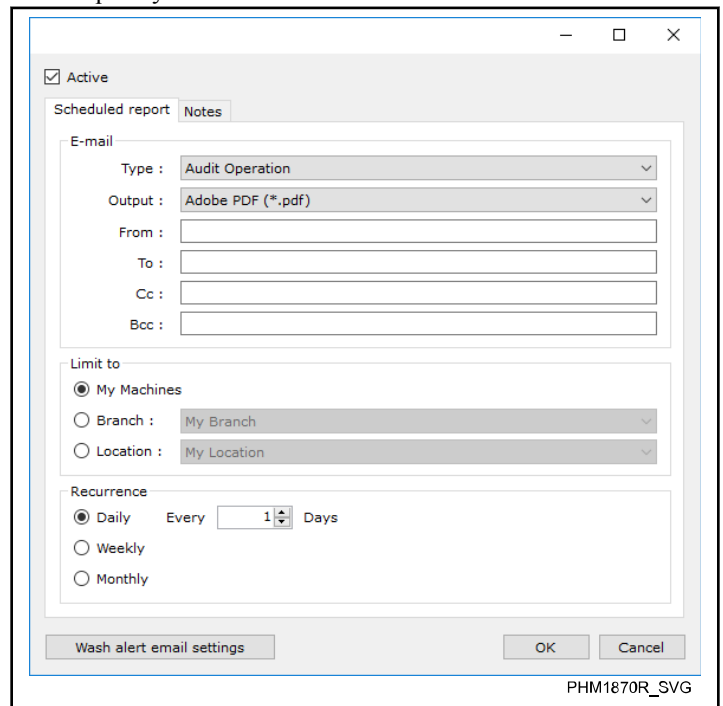

Figure 37
8. In the "Scheduled reports" window, enter the following information. Refer to *Figure 37* .
3. In the "Scheduled report" window, edit the following information as needed. Refer to *Figure 37*.